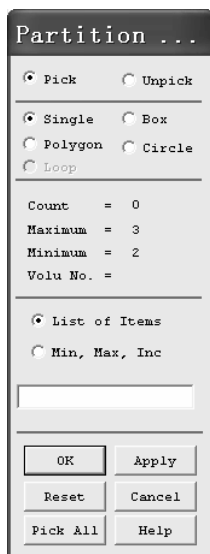

图 2-100 “Partition...” 窗口
(4) 依次选择 Main Menu>Preprocessor>Modeling>Booleans>Partition>Volumes, 弹出“Patition...”窗口(见图 2-100), 单击“Pick All”按钮。